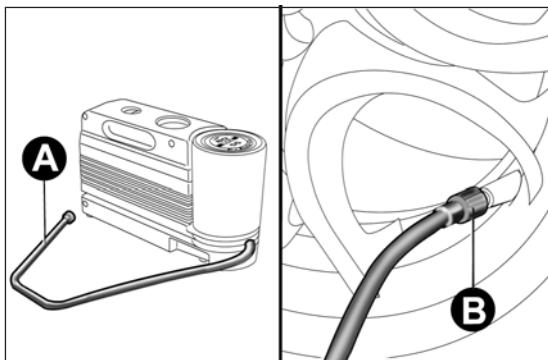

fig. 134
- engage the handbrake, unscrew the tyre valve cap, take out the flexible filler pipe A fig. 134 and tighten the ring nut B on the tyre valve;